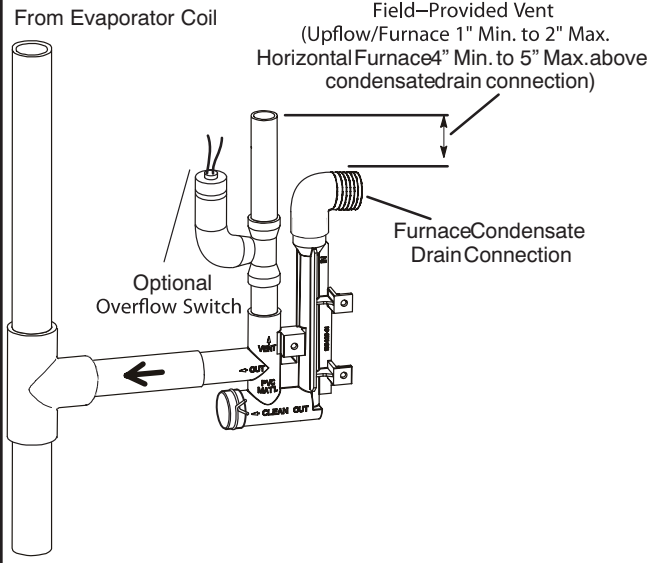
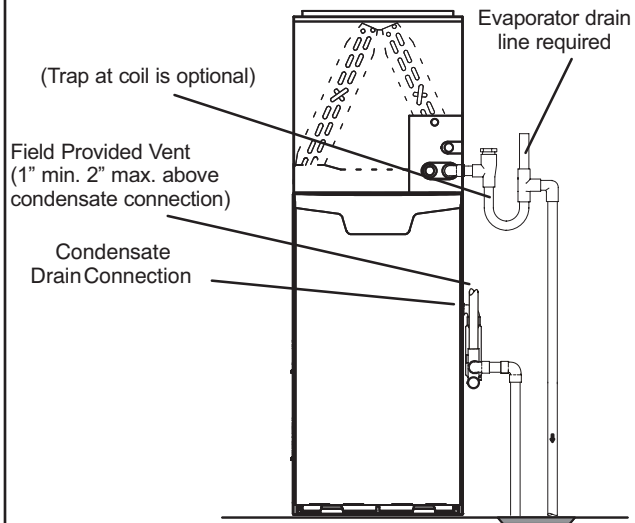
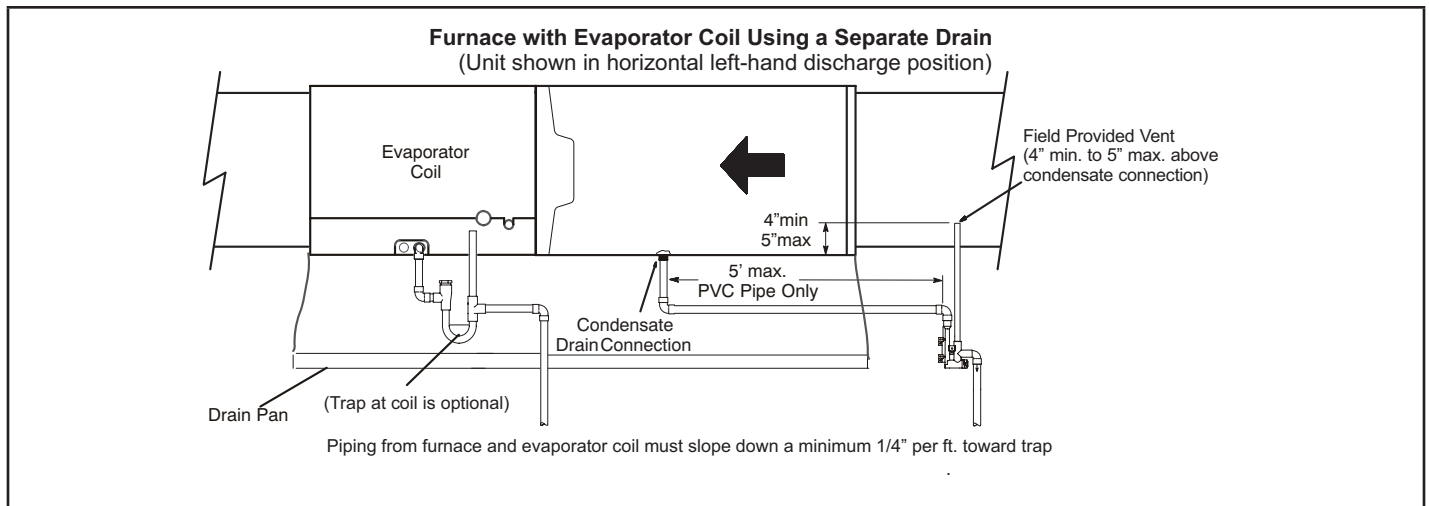
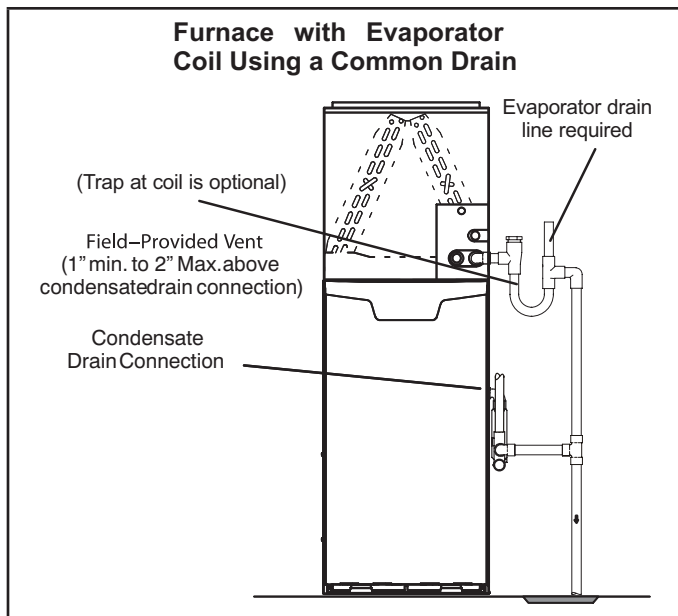

FIGURE 49
FIGURE 48
FIGURE 50
FIGURE 51
- 5 - FIGURE 48 and FIGURE 50 show the furnace and evaporator coil using a separate drain. If necessary the condensate line from the furnace and evaporator coil can drain together. See FIGURE 49, FIGURE 51 and FIGURE 52.
Upflow furnace (FIGURE 51) - In upflow furnace applications the field provided vent must be a minimum 1" to a maximum 2" length above the condensate drain outlet connection. Any length above 2" may result in a flooded heat exchanger if the combined primary drain line were to become restricted.